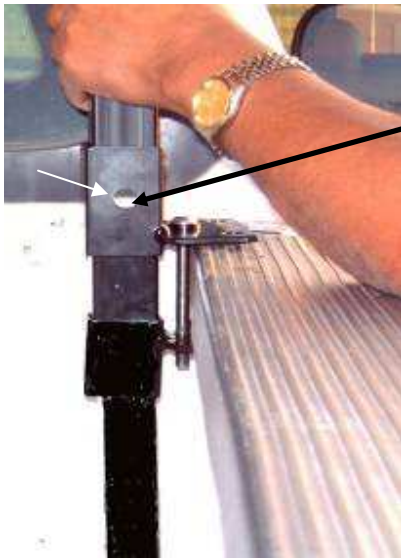

Fig. 5
5. **PLACE THE RACK IN TRUCK.** Select one of the rack assemblies and place it inside the bed of the truck adjacent to the bedrail near the front of the bed on the passenger side of the truck, so that the open side of the assembly is pointing toward the outside of the truck as shown in Fig. 4. Unthread the screws holding the clamp assembly together and separate the Clamp Top from the Bottom. Slide the Clamp Top up to a point where it can rest on top of the bedrail. Slide the Clamp Bottom up until the vertical portion of the Clamp Bottom inserts behind the lip of the bedrail. Move the entire rack as far to the front of the bed as possible while still allowing the Clamp Bottom to remain under the lip. Re-thread the screws into the assembly, and tighten the screws with the Allen wrench to draw the Clamp Top and Bottom together, as shown in Fig. 5, below. Tighten just enough to keep the rack from sliding or falling over.
7. **SET HEIGHT OF RACK AND ATTACH CLAMP TO BODY OF RACK.** After clamping the rack gently to the bedrail you must elevate, plumb, and level it by sliding the Horizontal Arm up until the top of the bar it is at least 2 inches above the cab of the truck. Use a level as shown in Fig. 6 to set the height. Next raise or lower the Diagonal Arm to align one of the three holes in the Diagonal Arm with the hole in the Clamp Top as shown in Fig. 5. Insert a 2.5-inch long screw through the hole and tighten with a lock nut; use a nylon washer on the head side and metal washer on the other end.